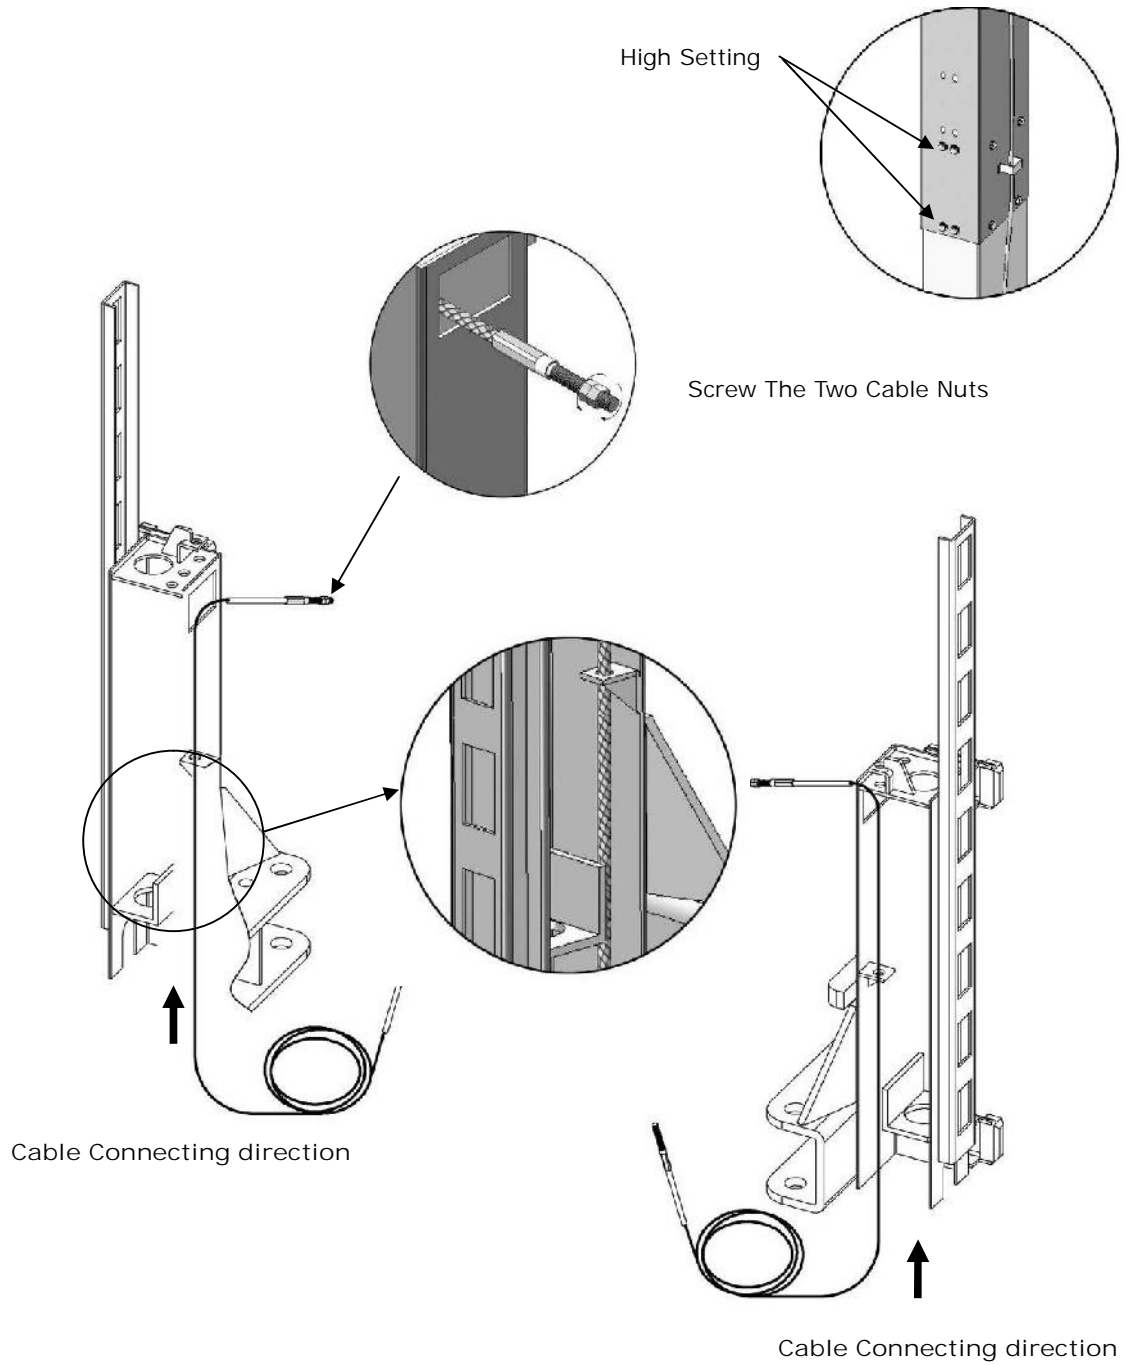

Fig. 23
b. For the high setting cable connection (see Fig. 23).
1. Cable passes through from the bottom of the carriages and can be pulled out from the access hole in front of carriages, then screw the two Cable Nuts (See Fig. 23).